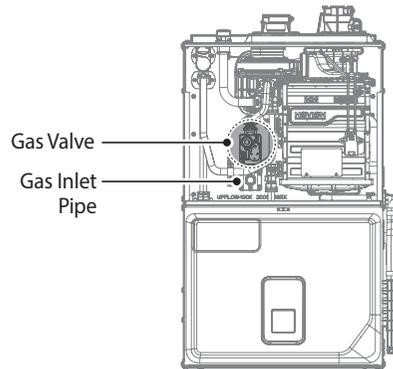

Figure 2. NPF Series Internal Components
4. With the internal components exposed, locate the gas inlet pipe and the gas valve, as shown in Figure 2.